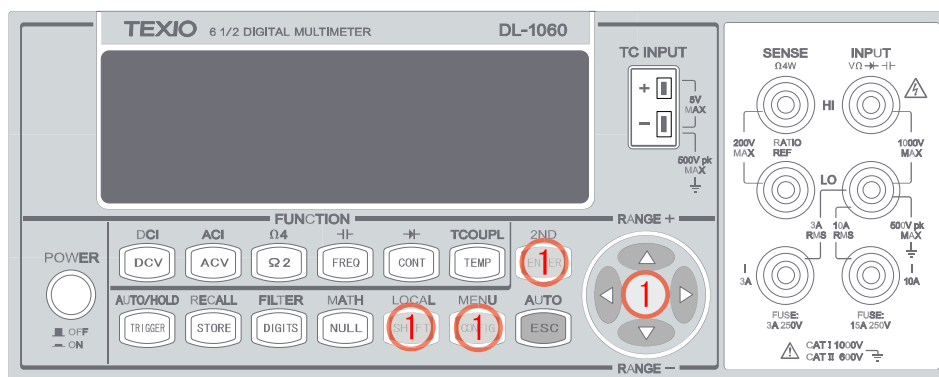

Figure 3-38
1. Do the procedure SHIFT + CONFIG > SYSTEM > ENTER > SCPI ERR > ENTER to check the error message, such as "ERROR CODE" or "NO ERRORS" as shown in **Figure 3-38**.